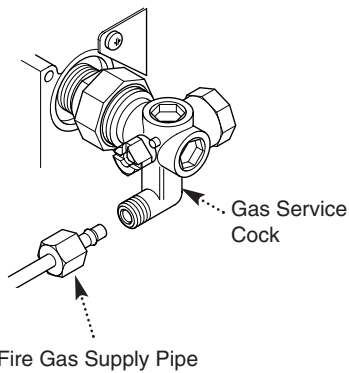

Fig. 61
8. Disconnect the gas supply to the fire at the gas service cock connection (Fig. 61).